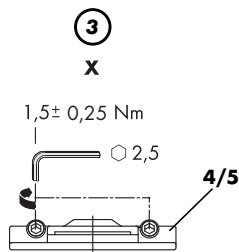
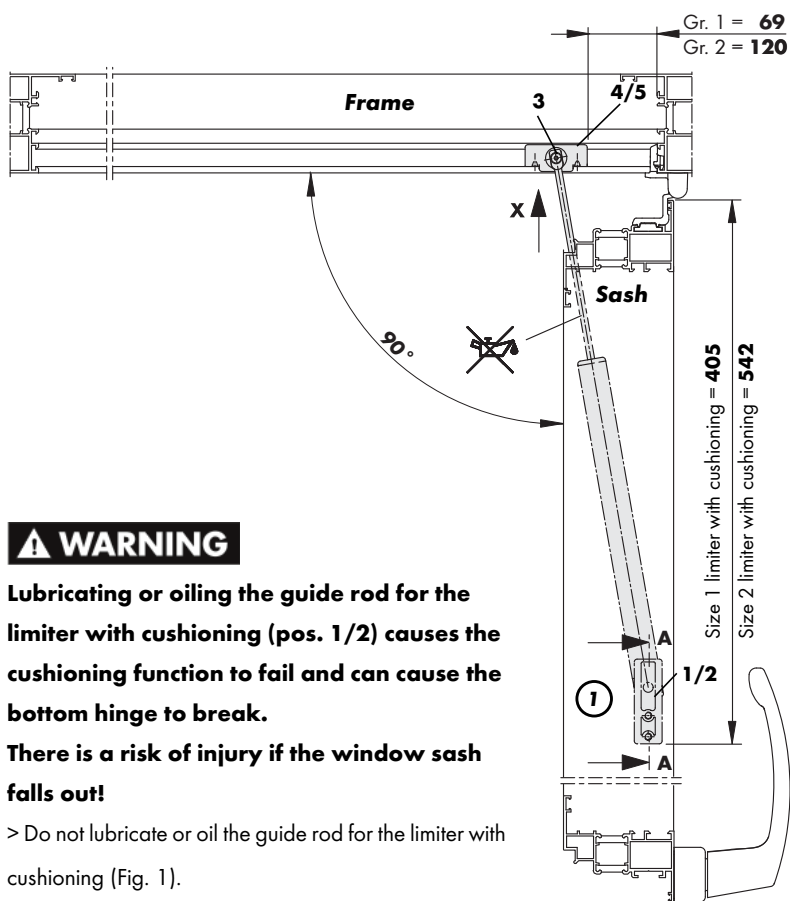

Fig. 3
Fig. 1
- 1 Insert size 1/2 cushioning (1/2) below into the sash groove horizontally and position according to measurements (see Fig. 1).
- 3 Insert top hinge block (4/5) into the frame groove and position according to measurements (see Fig. 1) and clamp using grub screws without any ends protruding (see Fig. 3) (torque  $1.5 \pm 0.25$  Nm).
> Do not lubricate or oil the guide rod for the limiter with cushioning (Fig. 1).